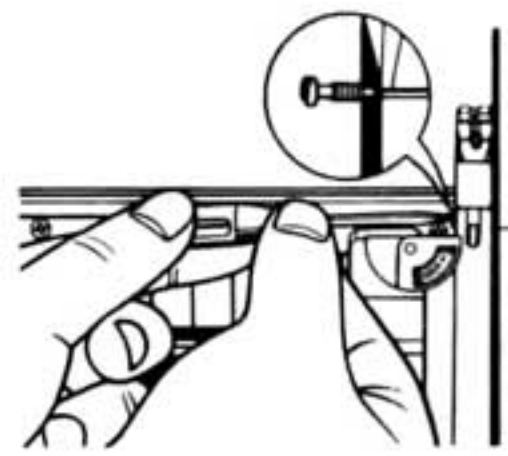

Fig. 3
2. Loosen the cartridge setscrew by using the attached screwdriver. (Completely loosen the screw until it is feed as shown in Fig. 3.)